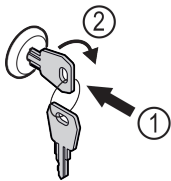

Fig. 126 Example illustration
- ▶ Insert key Fig. 126 (1).
- ▶ Turn key clockwise by 90° Fig. 126 (2).